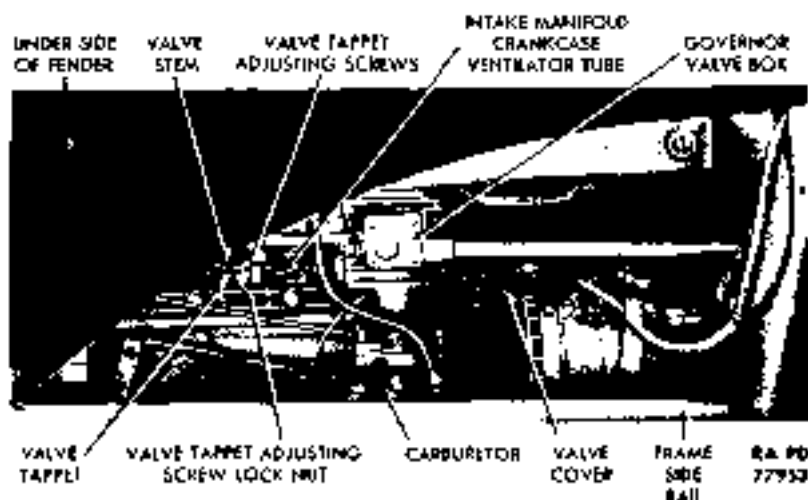

Figure 14 — Valve Tappet Adjustment Provisions
b. **Disconnect Intake Manifold Crankcase Ventilator Tube** (fig. 14). Unscrew tube from valve on intake manifold.
c. **Remove Valve Covers** (fig. 14). Remove the four valve cover screws, and lift the two valve covers and two gaskets from the cylinder block.
e. **Adjust Tappets** (fig. 14). Beginning at either end of engine, the valves are: exhaust, intake, intake, exhaust, exhaust, intake, intake, exhaust, exhaust, intake, intake, and exhaust, respectively. Beginning with the valve at the extreme front of the engine, loosen the adjusting screw lock nut. Insert a 0.010-inch feeler gage between the lower end of the valve stem and the valve tappet adjusting screw. Turn valve tappet adjusting screw into or out of the valve tappet, until just a light drag can be felt on the feeler gage as it is pulled from between the valve stem and valve tappet adjusting screw. Hold the valve tappet adjusting screw to keep it from turning, and tighten the adjusting screw lock nut. Repeat the process to adjust each of the other valve tappets. Proper clearance for exhaust valves is 0.010 inch, and for the intake valves 0.006 inch.
- g. **Replace Valve Covers** (fig. 14). Place valve cover gaskets in position on cylinder block. Place valve covers in position on gaskets. Install the four valve cover flat washers and screws.
- h. **Connect Intake Manifold Crankcase Ventilator Tube** (fig. 14). Install tube to valve on intake manifold.
(7) **DISCONNECT INTAKE MANIFOLD CRANKCASE VENTILATOR TUBE** (fig. 14). Detach ventilator tube from ventilator valve on the bottom of the intake manifold.
(2) **CONNECT INTAKE MANIFOLD CRANKCASE VENTILATOR TUBE** (fig. 14). Attach ventilator tube to ventilator valve at the bottom of the intake manifold.
(3) **ATTACH GOVERNOR VALVE BOX** (fig. 14). Place new valve box gasket, valve box, and attached carburetor in position on the intake manifold, and secure with the two cap screws.